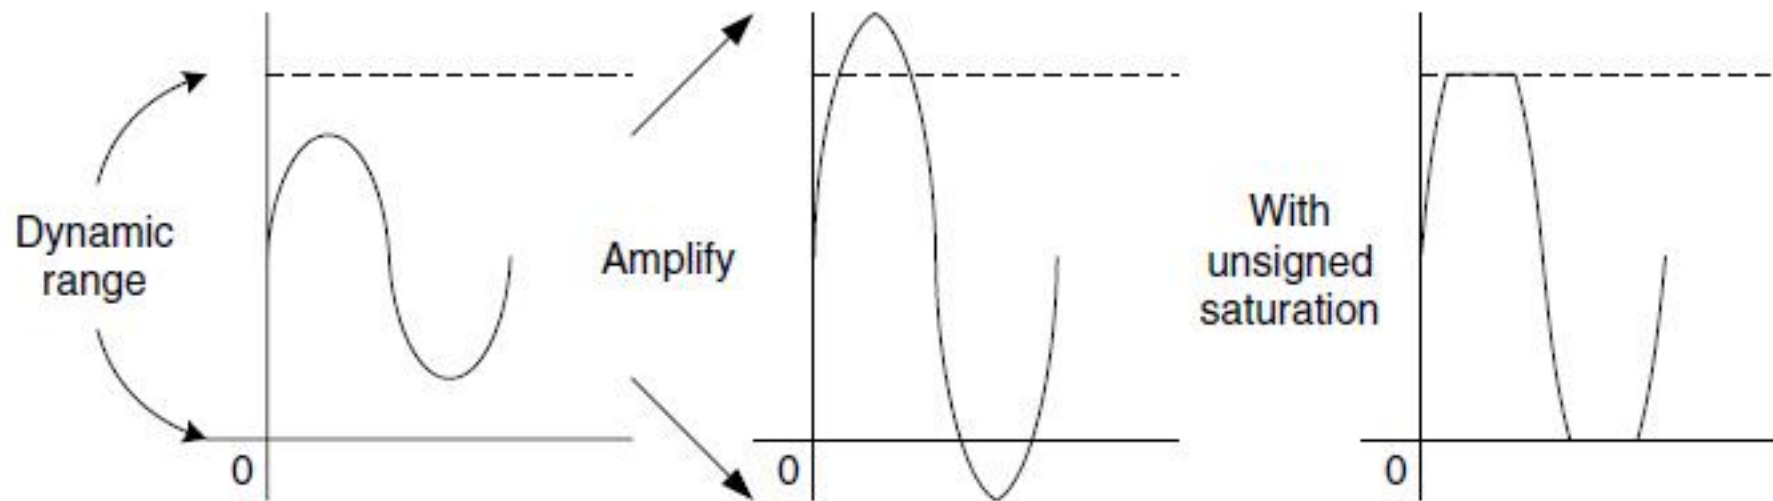

FIGURE 4.4
- This will provide a saturation feature that has the properties shown in Figure 4.4.